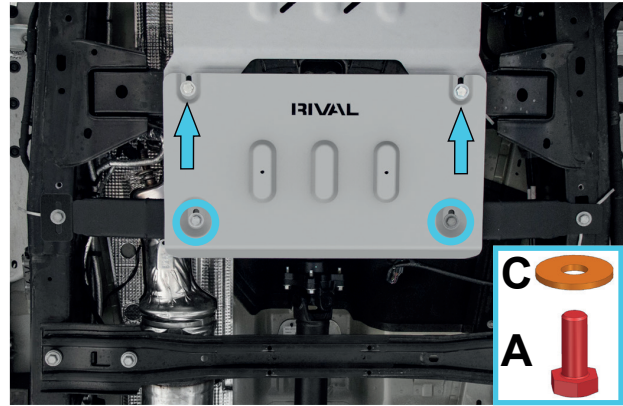

Fig. 8
5. Slide transfer case skid plate (item 1) over previously installed M10x30 bolts and M10 washers from step 4. Secure the rear of the skid plate to the previously installed crossmember (item2) using M10x30 bolts (item A) and M10 washers (item C) as shown in fig.8. If you have the Rival transmission skid plate slide transfer case skid over previously loosened bolts and under transfer case skid as pictured in fig.8.